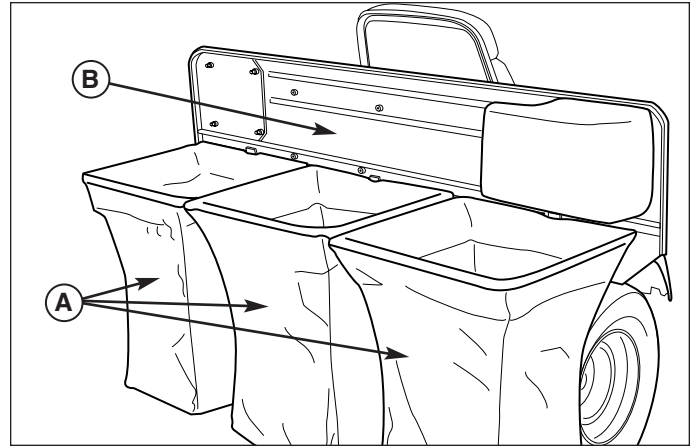

Figure 12. Install the Bags
1. See Figure 12. Hook the bags (A) on the back plate (B). *Note: If desired, the bags can be lined with 30 gallon trash bags for easy disposal.*